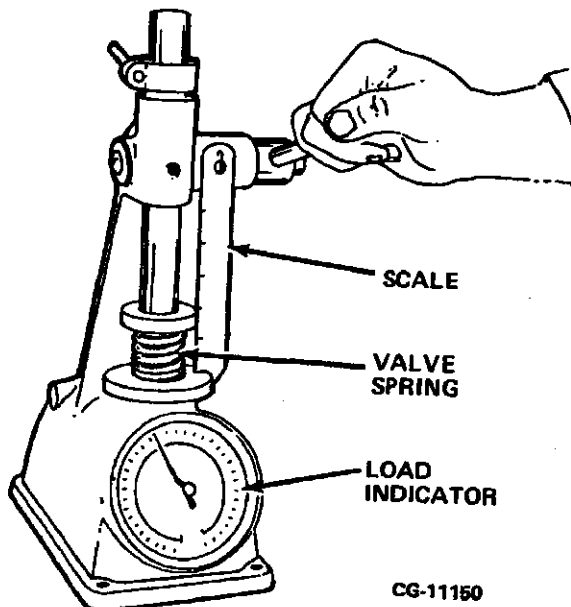

Figure 4.54. Checking Valve Spring Tension Using ZTSE-2241
3. Measure valve spring tension using valve spring tester ZTSE-2241. Refer to Figure 4.54 and "SPECIFICATIONS".